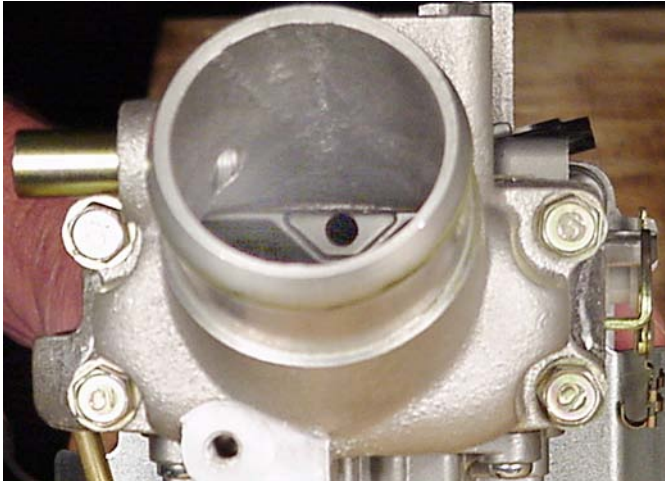

Fig. 164
1. Assemble air cleaner elbow and carburetor to intake elbow with new gaskets, Fig. 164. Torque screws to 90 in. lbs. (10.0 Nm).